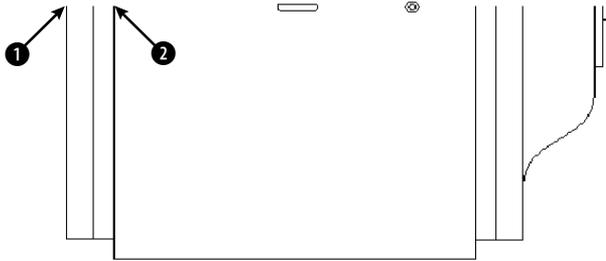

Figure 10-37: This small section of a drive block, seen from above, can easily be edited with grips.
2. Save the file as ab10-12.dwg in your AutoCAD Bible folder. This is a small section of a drive block, seen from above, as shown in Figure 10-37. Make sure ORTHO and OSNAP are on.
4. Pick the grip at ❶ in Figure 10-37 to activate it. You see the following prompt:
- Pick the grip at 2 in Figure 10-37 to activate it. Right-click and choose Rotate from the shortcut menu. At the Specify rotation angle or [Base point/Copy/Undo/Reference/eXit]: prompt, type **90** ↵. This action rotates the model.